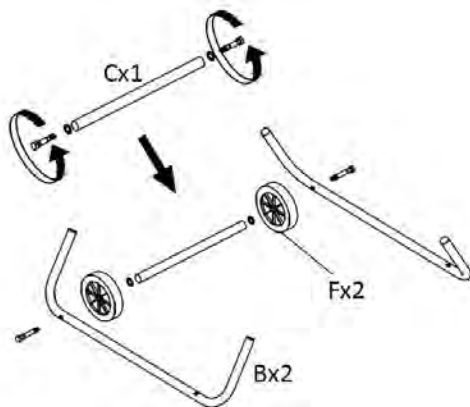

Fig. 4: Connect wheels and base frame
Step 2: Connect the two wheels and axle to the floor frame (Fig. 4).